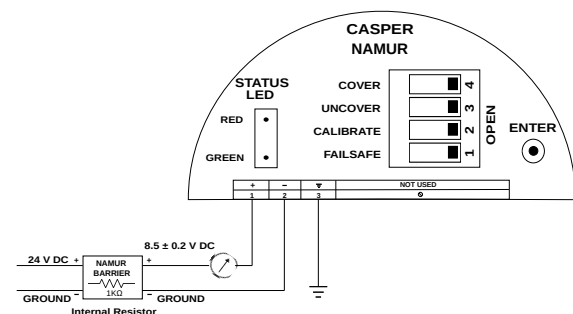

Figure 9: Electrical Connection during installation
Please refer to the Figure 9 for electrical connections while connecting the instrument in an application tank.
- Refer to given Figure 9 for Electrical Connections to power up and connect the device.